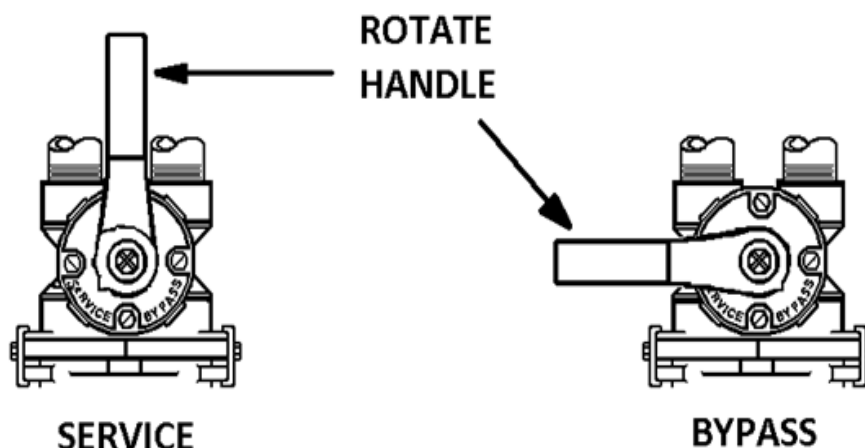

FIGURE 3: Stainless Steel Bypass Valve Operation
- STEP 11:** Place bypass in the "Bypass" position (refer to Figure 3 below). Open main supply valve or turn on power to pump on private well systems.
- STEP 14:** Refer to Figure 3 (above) for appropriate bypass valve operation. Rotate bypass lever of stainless steel bypass $\frac{1}{4}$ of the way to Service or until air and/or water begins to flow slowly to drain.
- STEP 15:** **IMPORTANT: Activated Carbon, Filter Ag and Birm must be soaked for at least 2 hours prior to submitting it to full backwash flow rate to prevent loss of media to drain.** Once the air is purged, fully open the bypass valve to the "Service" position (Figure 3 above) and leave the control valve in backwash position for at least 10 minutes or until water flowing from the drain line runs clear; whichever is longer.
- 1) Pressure must be relieved on the system by placing the bypass valve in the "Bypass" position (Figure 3, Page 6) and initiating a manual regeneration and advancing to the "Backwash" position to relieve pressure. Once water has stopped flowing to drain move on to next step.
- 11) Attach bypass (Figure 2, Page 5 & Figure 3 Page 6) to control valve body.
- 14) Open the bypass valve only 1/4 of the way to the “Service” position (Figure 3, Page 6). Any air trapped in the media bed should begin purging to the drain and water should begin flowing slowly to the drain.
- 15) Once the air is purged, fully open the bypass valve to the “Service” position (Figure 3, Page 6) and leave the control valve in “Backwash” position for at least 10 minutes or until water flowing from the drain line runs clear; whichever is longer.